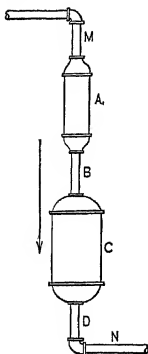

FIG. 22. No more current can flow through the large pipe *C* than can get through the other pipes *M*, *A*, *B* and *D*.
**14. Series Circuit. Current.** If we join four pipes *A*, *B*, *C* and *D*, Fig. 22, of unequal diameters together in series, and force a current of water through them, the water